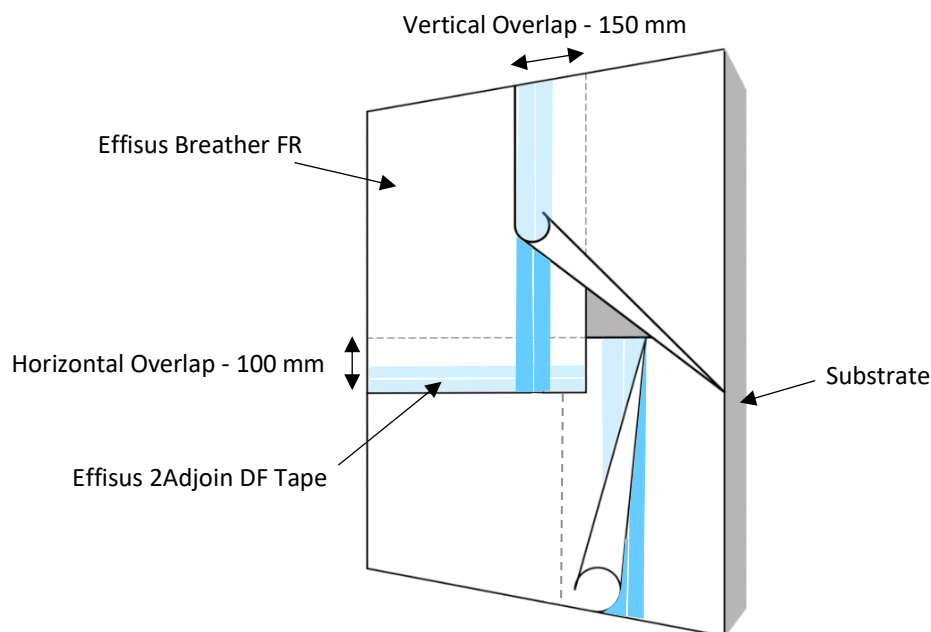

Figure 3 - Effisus Breather FR Membrane – Overlapping Joints.
- Vertical joints should overlap by 150mm minimum and be staggered or offset wherever possible (see Figure 3).